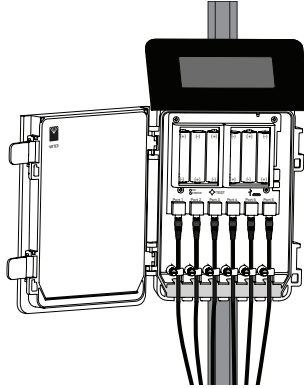

Figure 6 Logger connection
1. Plug the stereo plug connector into one of the sensor ports on the logger (Figure 6).